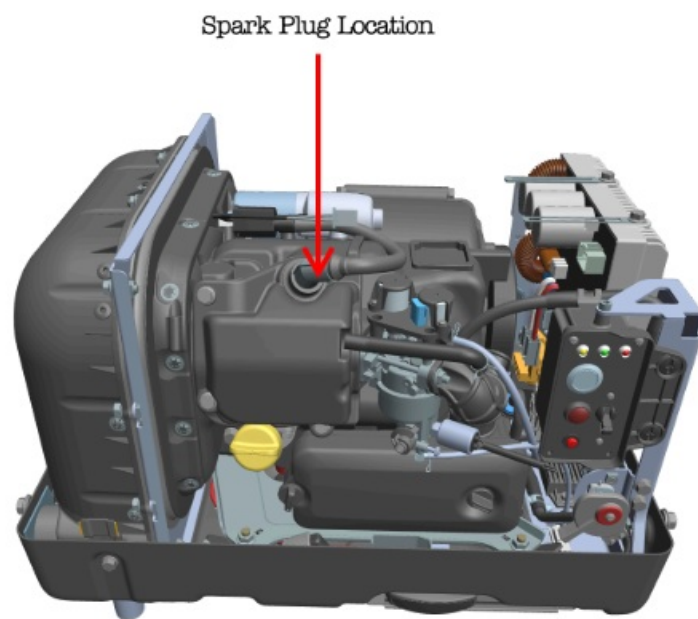

Fig. 15
3. Remove the spark plug boot (Fig. 15) by firmly pulling up and away from the engine.